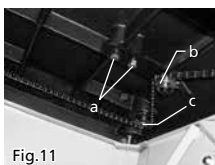

Fig.11
2. Loosen two hex head bolts (b) that fasten the idler sprocket (c) to the base until you can turn each corner sprocket (d) independently. One of the corner sprockets is shown in Fig.11.